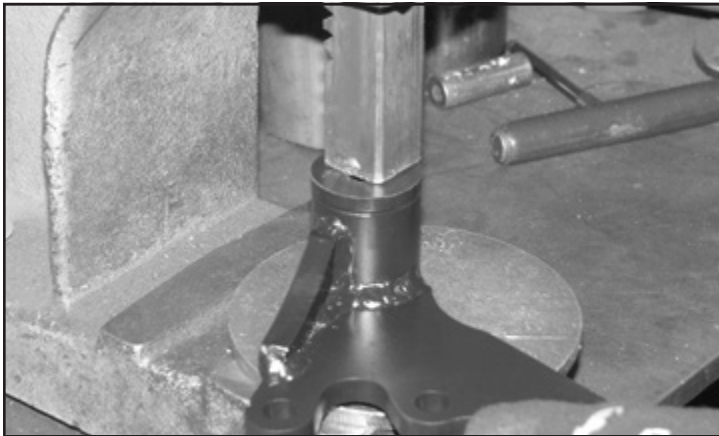

FIGURE 22 - STEP 24
24. Locate the center differential bracket (FT30567). Install two of the Fabtech (FT1020) bushings and one sleeve (FT181) into the barrel on the differential bracket. **SEE FIGURE 22**